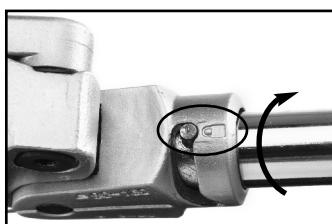

Figure 14 – LOCK
3. Turn the Carriage Handle so that the pin moves toward the "lock" position. Make sure the Handle is secure to the Carriage. (Figure 14).